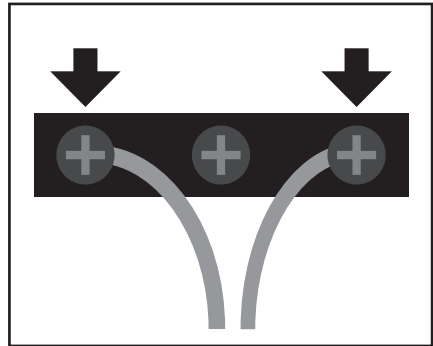

Fig. 22
3. Remove cover of limit switch. Connect cable to outer 2 pins of limit switch (Fig. 22).